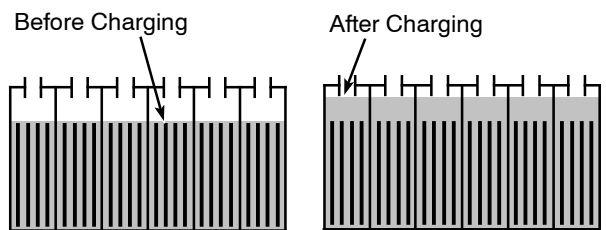

FIG. 32
1. Check battery fluid level frequently to prevent battery damage. The fluid should be at the level shown (Figure 32). Add distilled water if low. **DO NOT OVERFILL**, the fluid may expand and overflow when charging.